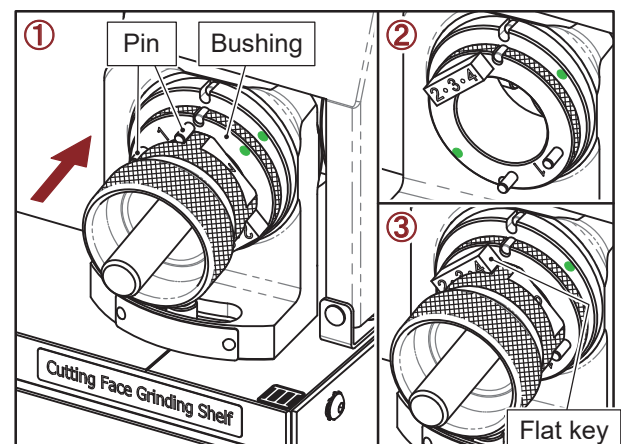

Fig. 15-3
3. 4 Flute Cutting Face Grinding (III) (Fig. 15-3)
① Insert the chuck set into the bushing on the Shelf (III), align Slot No.1 to the two pins where marked as No.1, push the chuck set gently until the grinding noise stops, then take the chuck set out.
② Turn the bushing to No.(2·3·4), align No.(2·3·4) to the pin on the shelf, then insert it to the end.
③ Insert the chuck set into the bushing, align Slot No.2 to the flat key where marked as No.(2·3·4), push the chuck set gently until the grinding noise stops. Turn the chuck set to grind the Slot No.3 and Slot No.4 in the same way.